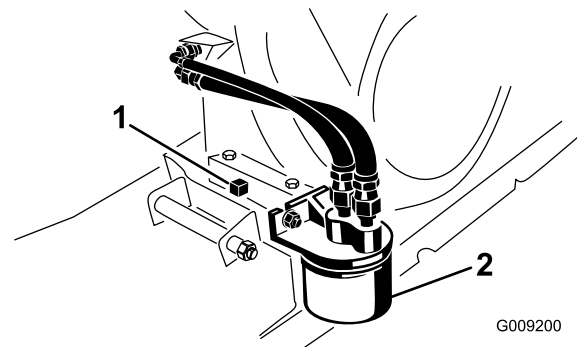

Figure 29
5. Remove the drain plug (Figure 29) and let the oil flow into a drain pan. When the oil stops, install the drain plug.
- Remove the existing oil filter (Figure 29).